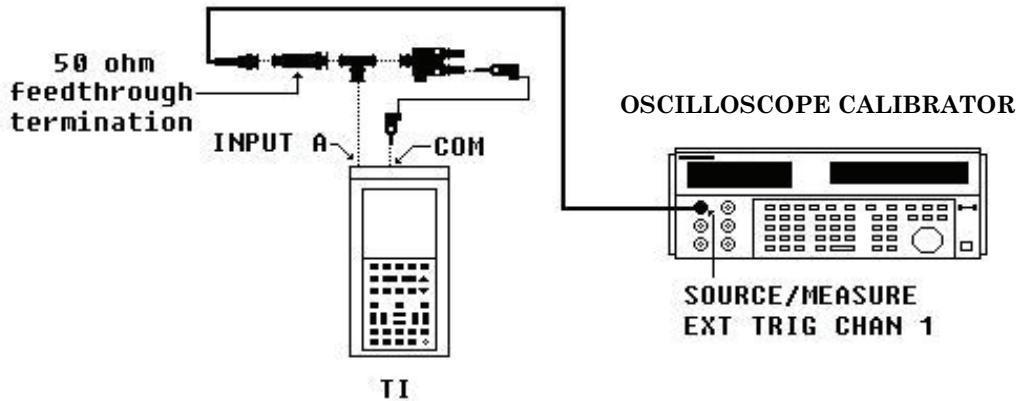

Figure 3. Scope bandwidth input A.
(2) Connect equipment as shown in figure 3 below: